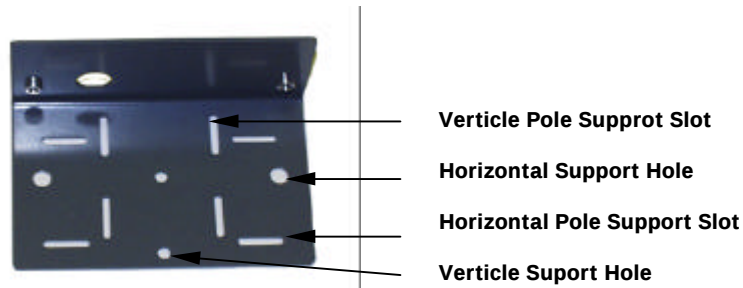

Figure 4.1-1 TIM Universal Mounting Bracket
Williams Telemetry offers several TIM meter specific index dial covers and universal brackets with instructions on installing the TIM to type specific meters. See Figure 4.1-1 TIM Universal Mounting Bracket. The mounting brackets may be installed on a flat, smooth surface, rigid pole, or any other type of vertical foundation.
2.	If the bracket is mounted on a horizontal pole, thread band clamps through horizontal pole mounting slots (see Figure 4.1-1) and around pole. If the bracket is mounted on a vertical pole, thread band clamps through vertical pole mounting slots (see Figure 4.1-1) and around pole.